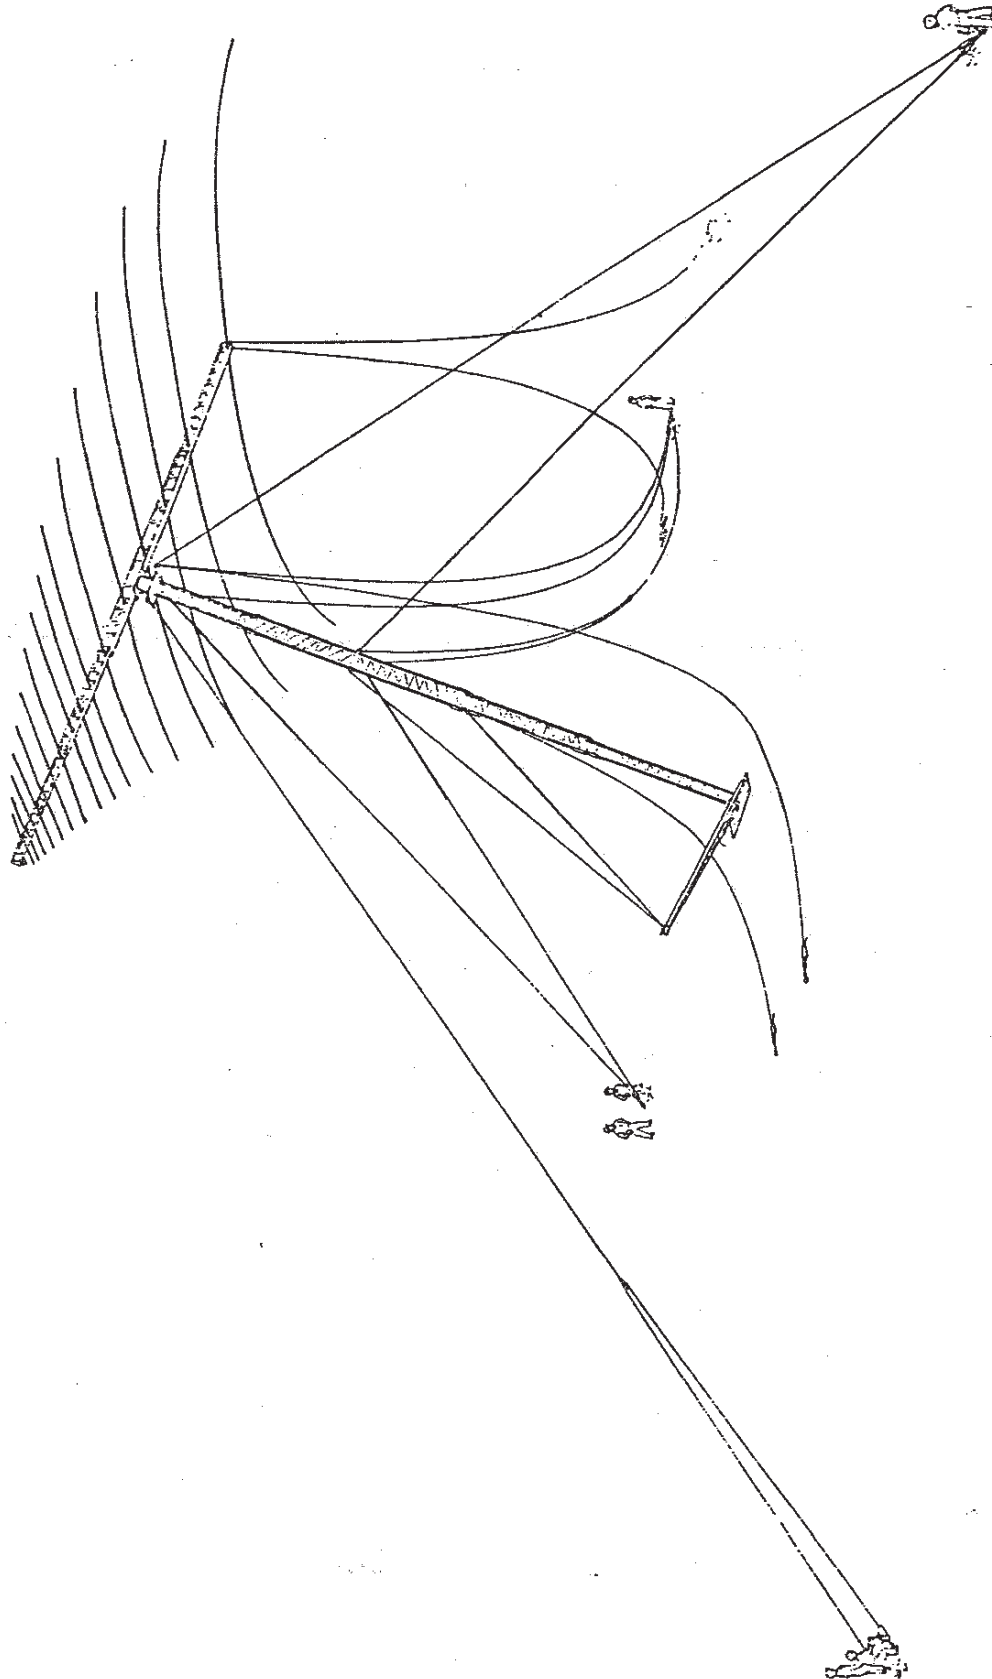

Figure 2-56
- i. After the antenna is securely latched, tie off the hinge plate rope assembly to the leg of the boom. Make sure there is not tension on this hinge plate rope. Figure 2-56 shows a general view of the antenna with the boom properly latched, and the tower almost erect.
- l. The men located at the rear anchor will insure that the top and rear guys are attached to the rear guy anchor as shown in Figure 2-56.